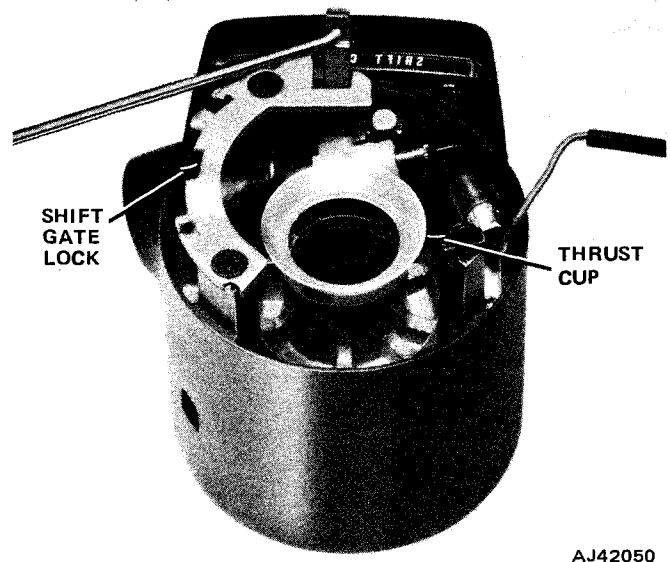

Fig. 2J-27 Thrust Cup Position
(25) Remove thrust cup from upper housing (fig. 2J-27).
(26) Remove lock bolt and lock rack and remove rack preload spring (fig. 2J-28).